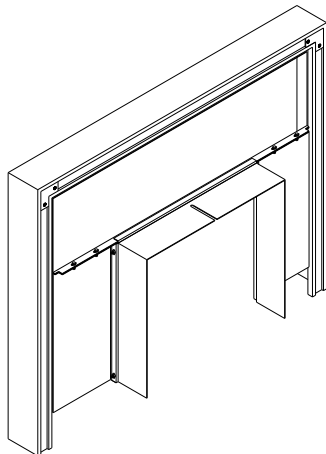

Figure 7
- D. Line up the holes by pushing the sides out and install (smooth heads inside) all the bolts loosely. Line up the edge of the faceplate top and side, tighten the two bolts joining them, and then tighten the side bolts. Tighten the bolts on the other side in the same manner (see Figure 7).